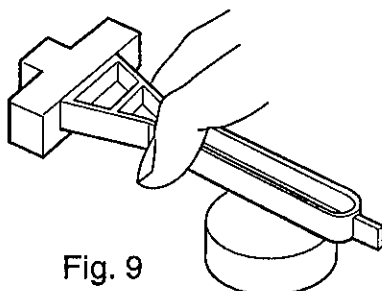
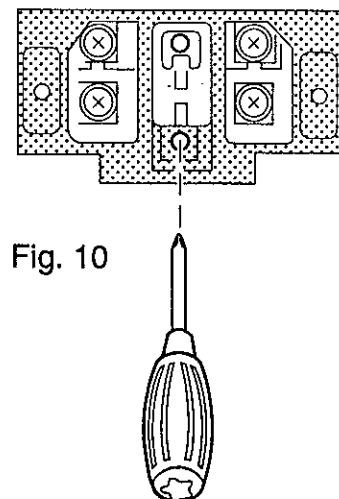

Fig. 9
Fig. 10
Step 9. Remove the lower side screw of tension flexure. Support the beam assembly with your thumb and fore finger (Fig 9) and remove the upper side screw of tension flexure (Fig 10).